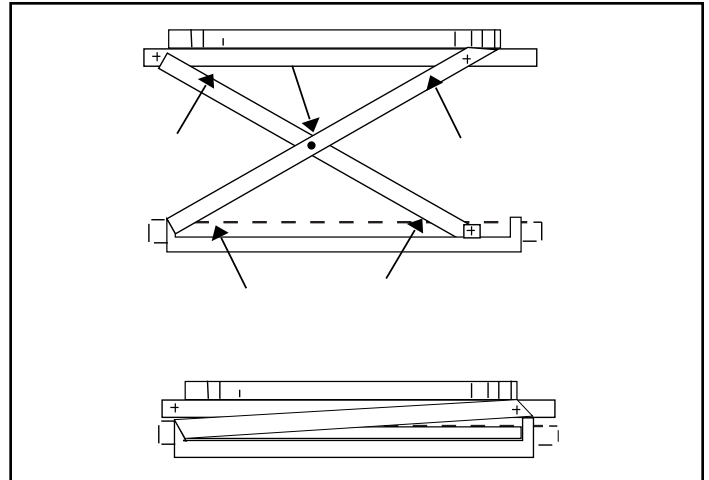

Figure 2 – Pinch Points
- As the unit moves, keep away from the "pinch points" where metal parts meet. (See Figure 2).